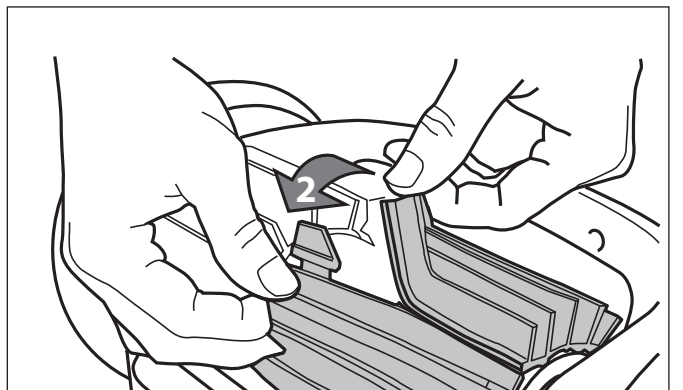

Figure 34. Undo the Tabs of the Brush
2. Separate the edges of the brush and undo the tabs (Figure 34). Remove the worn brushes.